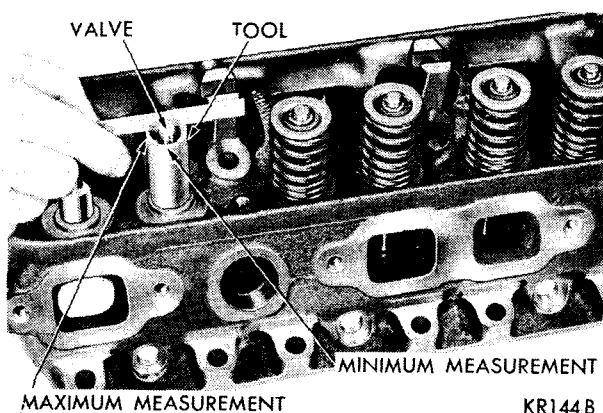

Fig. 11—Measuring Valve Stem Length
(3) When the seat is properly positioned the width of the intake seats should be $1/16$ to $3/32$ inch. The width of the exhaust seats should be $3/64$ to $1/16$ inch.
(4) Measure the concentricity of the valve seat using dial indicator No. 13725. The total runout should not exceed .003 inch (total indicator reading).
(5) When valves and seats are reground, the position of the valve in the cylinder head is changed, shortening the operating length of the hydraulic tappet. This means that the plunger is operating closer to its "bottomed" position, and less clearance is available for thermal expansion of the valve mechanism during high speed driving.
(6) The design of the valve mechanism includes a safety factor to allow for a limited amount of wear, and the refacing of the valves and seats.
(7) To insure that limits have not been exceeded, the dimension from valve spring seat in the head to the valve tip should be measured with gauge, Tool C-3648 (Fig. 11).